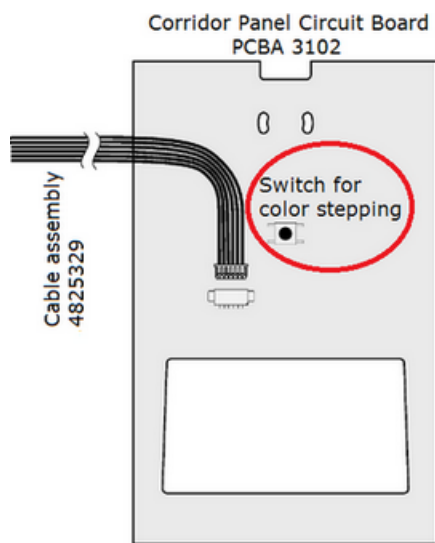

Figure 74
1. The color of access panel Allure Grand and room status panels Allure Blend and Allure Chic can be changed; use the switch marked in Figure 74. There are 16 colors available.